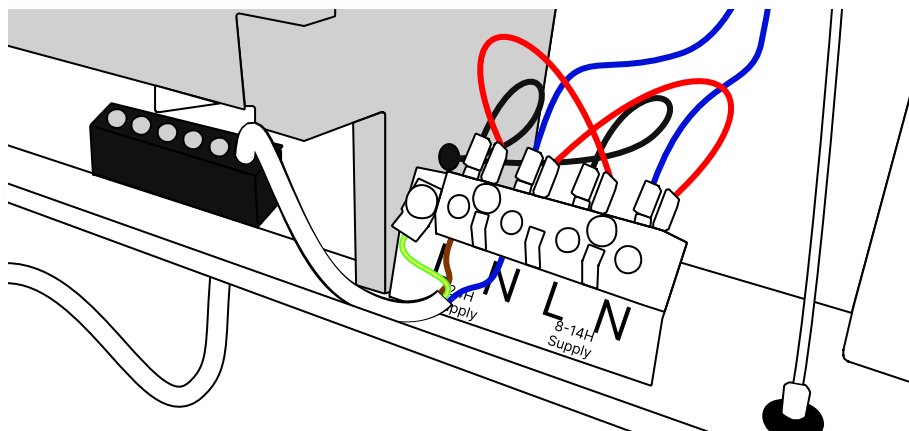

Figure 6 | Connecting the power supply (single supply)
25. **For use with a single supply**, install 2 red jumper cables between L (24H) and L (8H/14H), and between N (24H) and N (8H/14H). (**Figure 6**)